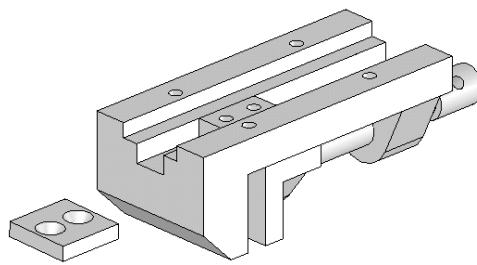

Figure 12-70 Clamping Plate after rotating
3. Select the Clamping Plate using the right mouse button and drag the cursor to rotate the Clamping Plate, as shown in Figure 12-70.